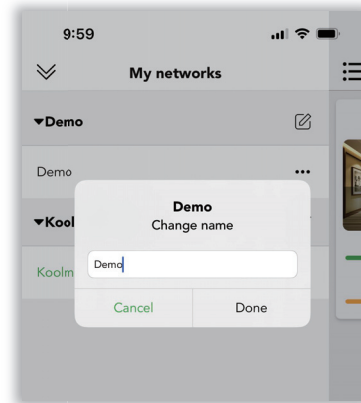

Figure 3.7 Change name
1. Click  to change the name of the project in “My networks” (see figure 3.7)